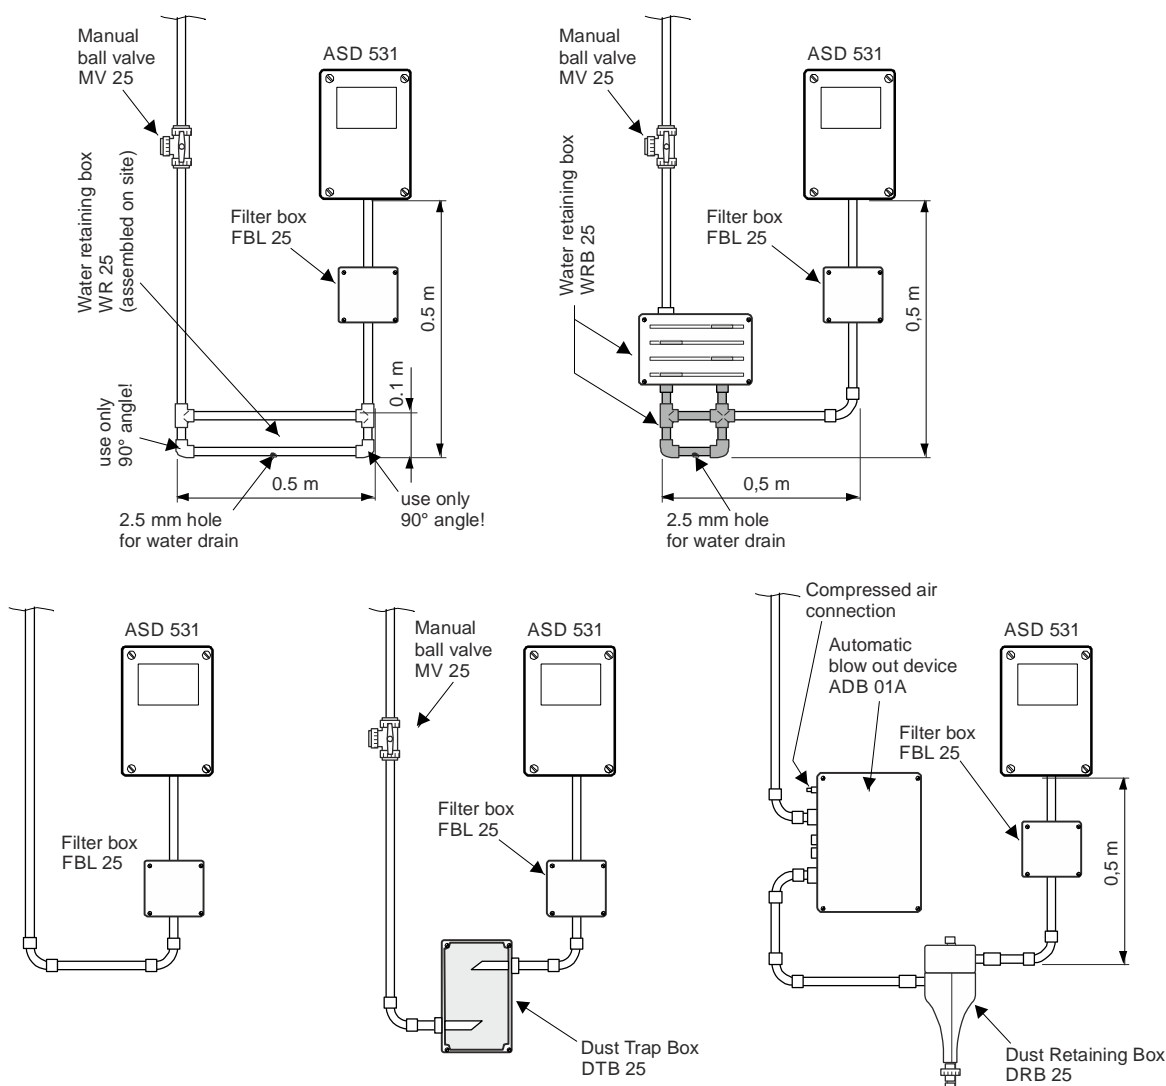

Fig.42 Mounting accessory parts
- The mounting positions for the water retaining box, dirt trap box and dust retaining box must be observed as indicated in Fig.42.